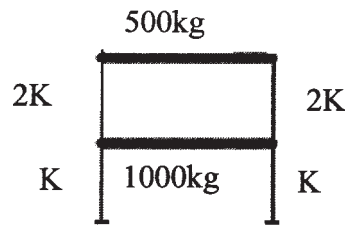

Figure 4.1
**Q4)** For the two degree freedom system shown in Figure 4.1, obtain natural frequencies and amplitude ratios. Assume  $K = 20\text{kN/m}$ . [16]